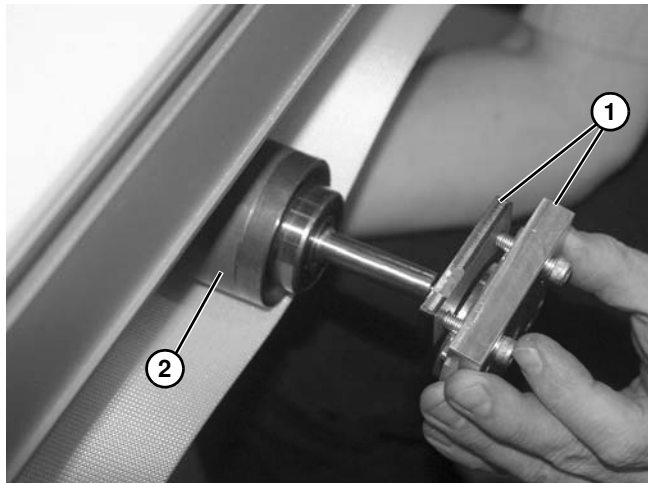

Figure 91
6. Separate mounting blocks (Figure 91, item 1) from spindle (Figure 91, item 2).